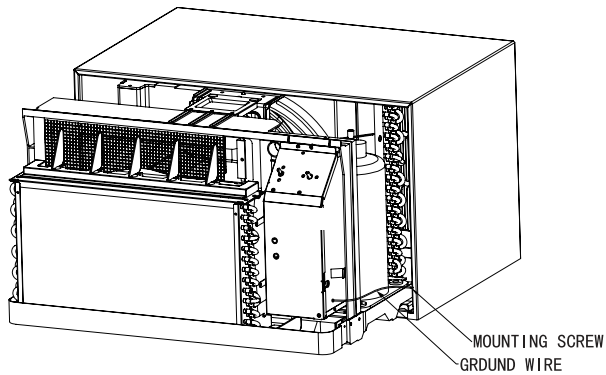

Fig 5
2. Remove the ground screw and wire next to the grounding symbol on right side of chassis control panel(Fig 5). Attach other end of ground wire to the hole in the bottom right side of the sleeve with #8×3/8" blunt point sheet metal screw. The hole on the sleeve is indicated by grounding symbol on the sleeve. Slide chassis part of the way into the sleeve and reattach the ground wire back to the hole on the right side on the control panel area next to the ground symbol.